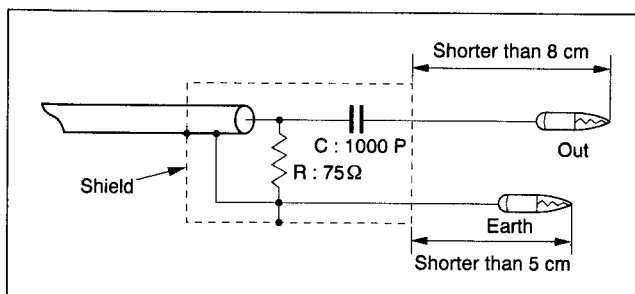

Fig. 3-6-1 Sweeper probe
- (1) Use a sweeper probe as shown in Fig. 3-6-1.
- (2) Supply 1 kHz R-only modulated IF signal to IF terminal of U/V tuner (front end).
- (3) Connect an oscilloscope to IC401-pin48.
- (4) Adjust VR1501 for minimum output level.